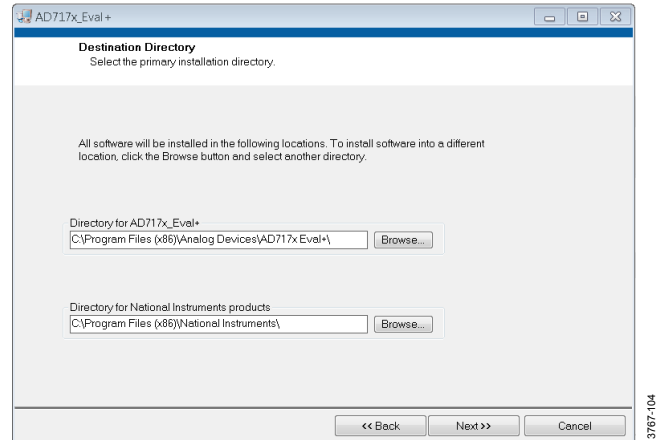

Figure 4. AD717x Eval+ Installation, Selecting the Location for Software Installation
4. Select a location to install the software and click **Next**. Figure 4 shows the default locations displayed when the dialog box opens. To select another location click **Browse**.